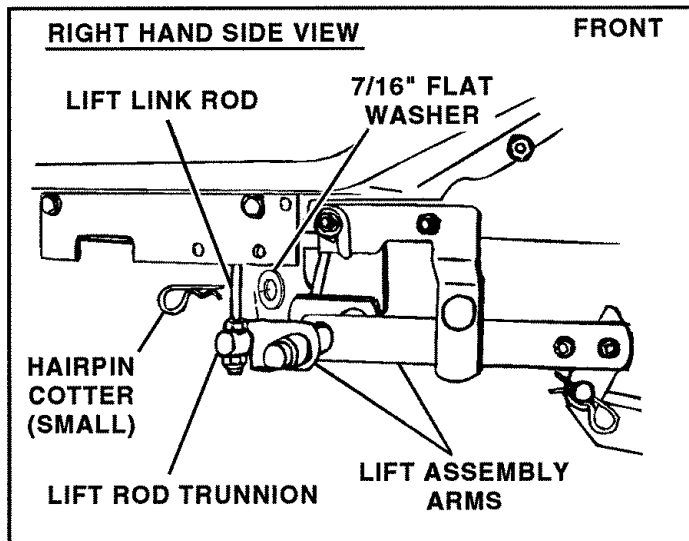

FIGURE 20
20. Assemble trunnions that were assembled to the lift link rods in step 12, through lift assembly arms and secure with 7/16" flat washers and (small) hairpin cotters. **Note: Trunnions must be positioned to outside of lift assembly arms.** See figure 20.
21. Assemble lift pivot plate over right hand end of lift assembly pivot shaft and connect to outside of frame bracket using two 3/8 x 3/4" clevis pins from inside. Secure with two 3/32" (small) hairpin cotters. Secure ends of pivot shaft to each lift pivot plate with 1/8" (large) hairpin cotter. See figures 20 and 21.